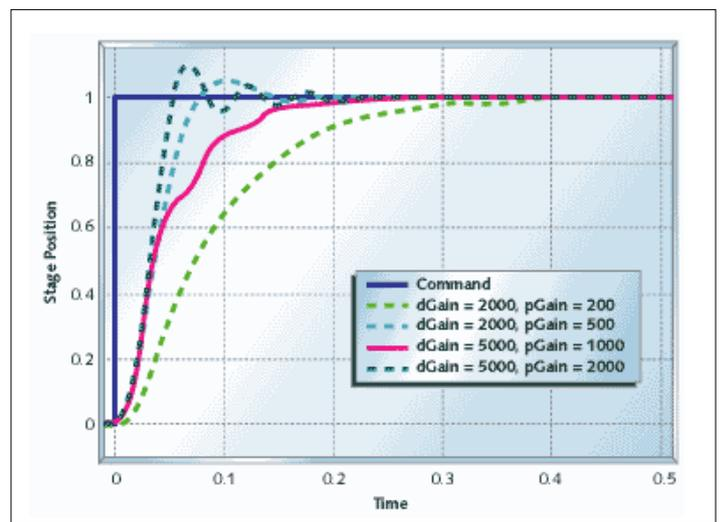

Figure 17
With differential control you can stabilise the precision actuator system. **Figure 17** shows the response of the precision actuator system with proportional and derivative (PD) control. This system settles in less than 1/2 of a second, compared to multiple seconds for the other systems.